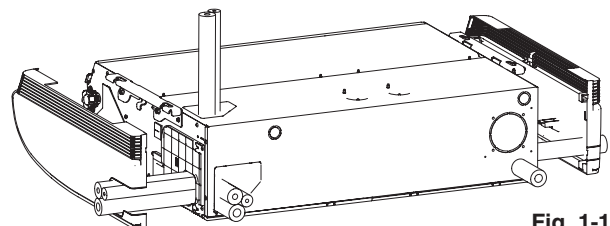

Fig. 1-198
- The positions of the refrigerant tubing connections are shown in the figure below. (The tubing can be routed in 3 directions.) (Fig. 1-198)
- * If the drain hose is routed through the left side, refer to Fig. 1-198, and follow the procedure above to install the hose.